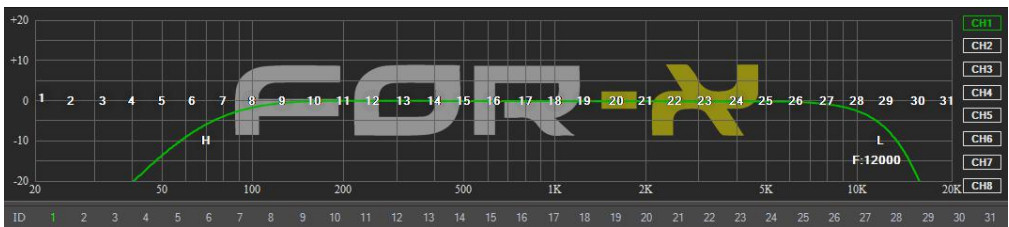

Figure 3.3.8
1. The output channel EQ editing method, all 31 equalizers will work for the next parametric equalizer. When the parametric equalizer curve, if available in the box below the corresponding input parameter values can be (frequency, Q value, and gain) adjusted in real time will also be revealed at the top (as shown in Figure 3.3.8 parametric equalizer case).